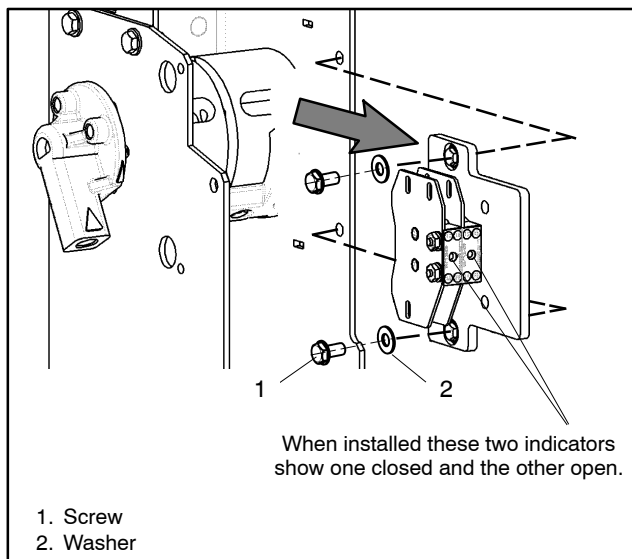

Figure 7-16 Control Contact Assembly
2. Remove the control contact assembly. Remove two SEMS screws and remove the control contact assembly. See Figure 7-16.
3. Install the new control contact assembly. Position the new control contact assembly with its pushbuttons against the cams on the weight. Install two #10-32 SEMS screws with washers and tighten. See Figure 7-16.
5. Manually operate the transfer switch. Use the maintenance handle (see Section 7.1) to operate the transfer switch several times. You should see the two indicators change alternately from open to closed. If not, recheck the installation. See Figure 7-16.